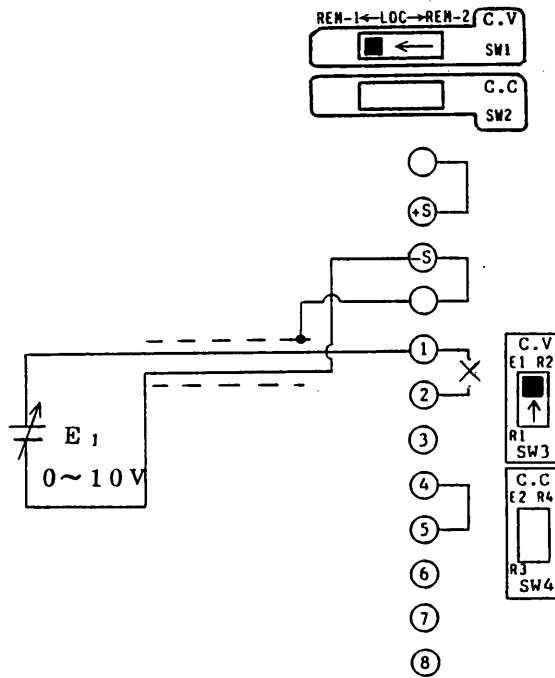

Figure 4-4
- (1) Turn off the POWER switch.
- (2) Disconnect the jumper from between terminals ① and ② of the rear terminal block.
- (3) Throw the SW1 switch on the rear panel to REM-1.
- (4) Throw the SW3 switch on the rear panel to E1.
- (5) Connect the remote control voltage signal (E1) to between terminals ⑤ and ①, with terminal ① for the positive polarity line.
- (6) Turn on the POWER switch. (Turn on the OUTPUT switch.)
- (7) Adjust offset (at zero volts) with the V.os control of the service panel.
- (8) Regarding the switches for which no settings are specified in Figure 4-4, set them to the standard states as shown in Figure 2-19 (See Section 2.4.) or to appropriate states for respective modes (See Sections 4.1 through 4.11.).